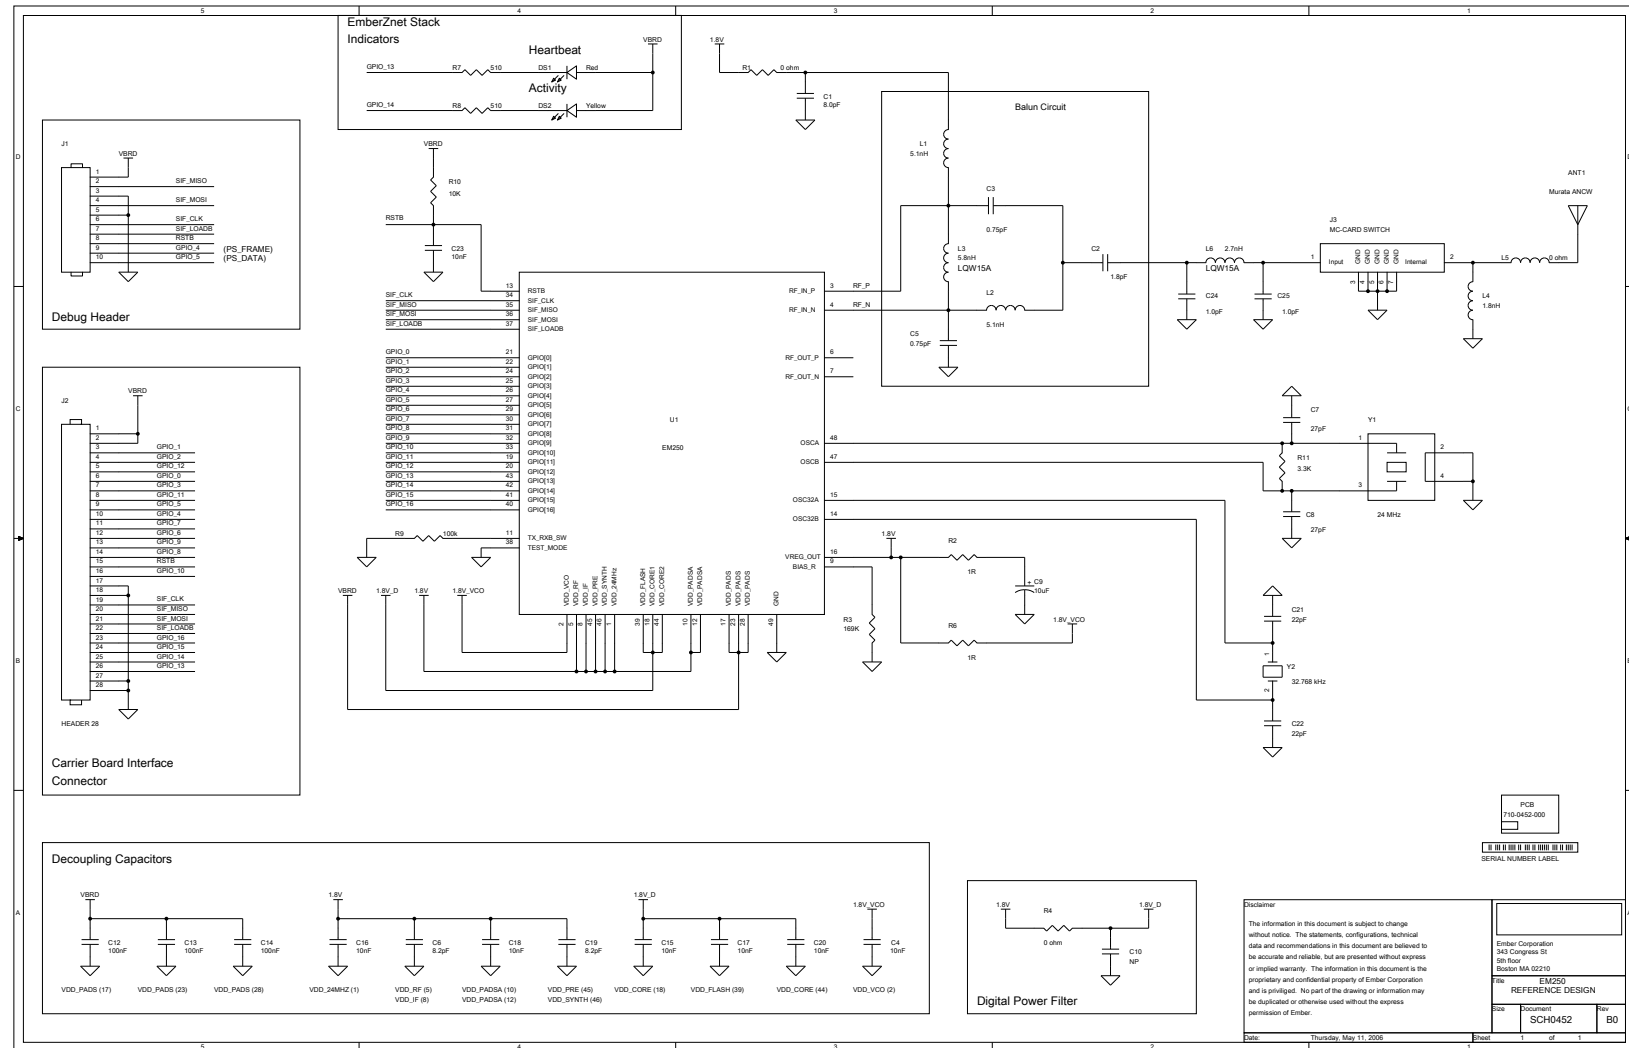

Figure 3. Schematic for EM250 Reference Design (130-0452-000 Revision B0)
Results from a component removal study are presented below to help point out the manufacturing test failures that would be present if a particular component is missing or if there is an open connection for that component. This experiment was conducted on two (2) EM250 radio communication modules (130-0452-000 Revision B0). As shown in Figure 3, this design contains a Lattice RC Balun and Ceramic Antenna. The components selected were those in the RF circuitry and VREG_OUT circuitry. Decoupling capacitors were omitted in this study and remained populated for all tests, but they will in fact affect device performance if missing.
Reference the schematic in Figure 3 to determine the components that apply to your design.